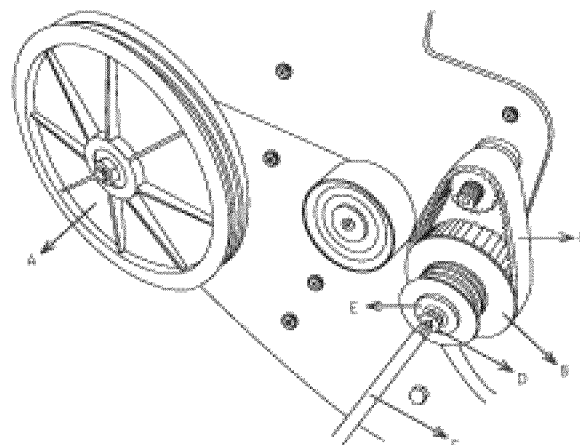

Figure 32
2. Unfasten the screw and washer from the middle pulley using a screwdriver (Fig. 32).